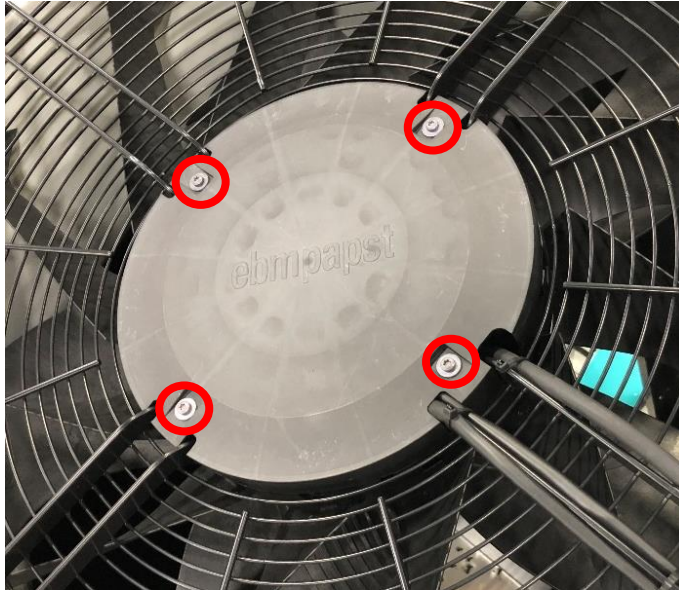
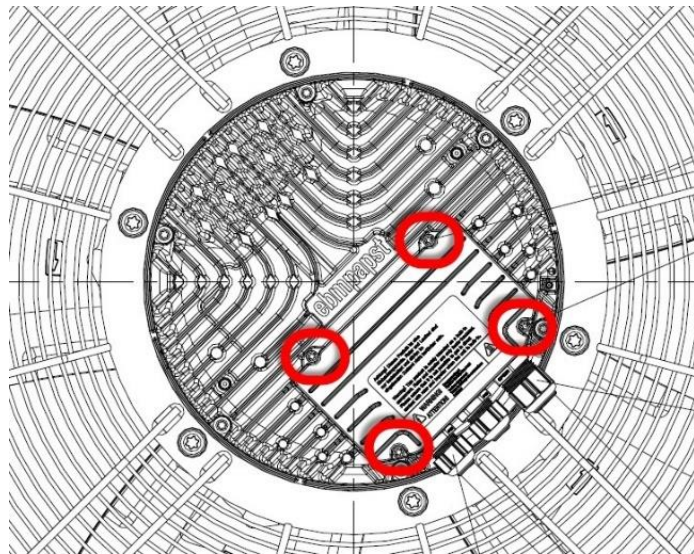

Figure 15. Fan Cover Plate
Figure 16. Terminal Box Cover
2. Remove the fan cover plate by removing the four fasteners as shown in **Figure 15**.
3. Remove the terminal box cover by removing the four fasteners as shown in **Figure 16**.
10. Remove the fan cover plate and terminal box cover shown in **Figure 15** and **Figure 16** respectively. Remove caps from the cable glands.
- Inspect the terminal box cover gasket and reinstall the terminal box cover with a tightening torque of 1.5 ± 0.2 Nm as shown in **Figure 16**. Proper installation of the terminal box cover is critical to maintain weatherproof rating of the unit. If the above procedure is not followed, damage due to water ingress will occur.
- Reinstall the fan cover plate with a tightening torque of 3 ± 0.3 Nm as shown in **Figure 15**.